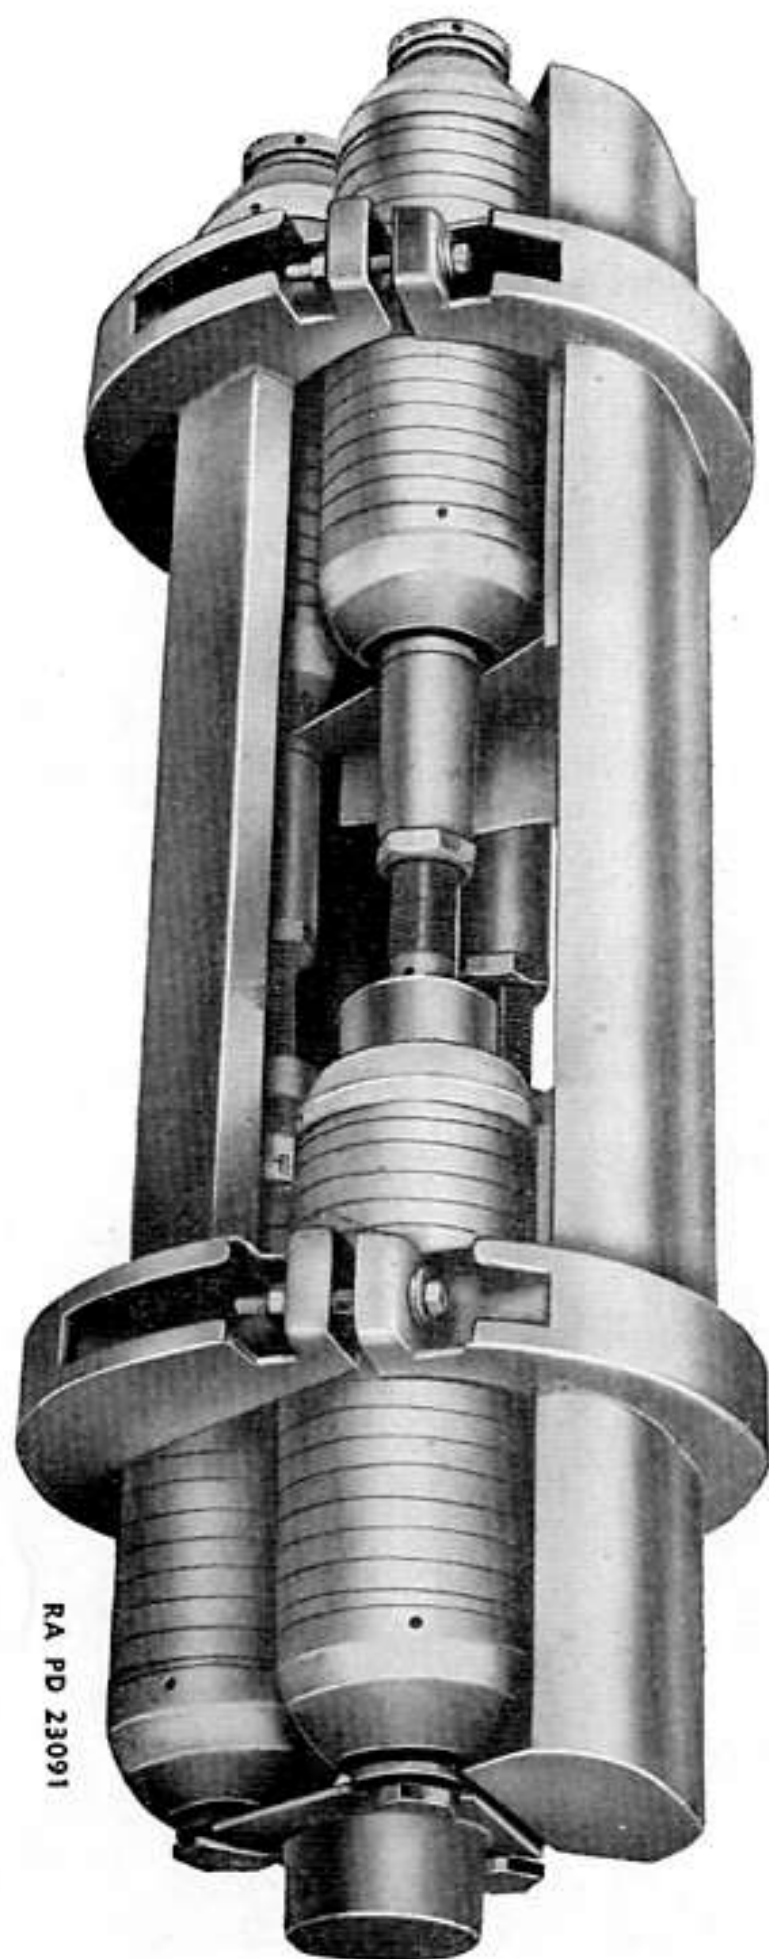

Figure 132. Cluster with shipping bands.
(2) *Connectors.* Connectors are assembled as follows (fig. 132):